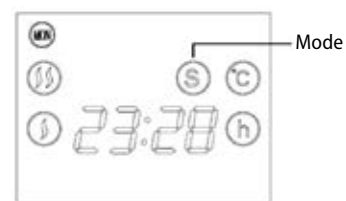

Fig. 2
2. Drill holes into the wall on both sides and then insert plastic wall plugs into the holes. Fasten the bracket in the wall with a screw, see Figure 2.
Press to change to operating mode. Fig. 2 illustrates what the display will be showing; the display will be showing .